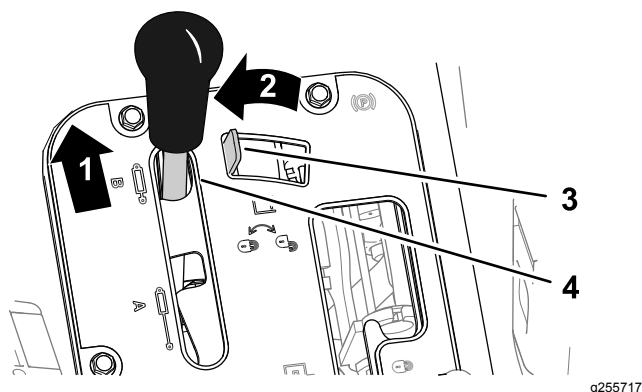

Figure 36
1. Push forward the hydraulic-lift lever (Figure 36).
2. Move the hydraulic-lift lock left to engage the lock (Figure 36).